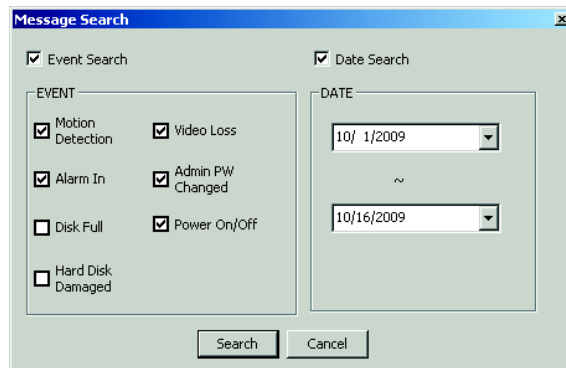

Figure 97. Selecting Event Type Search Settings
3. On the Received Messages toolbar, click Search . The Message Search dialog box appears (refer to Figure 97 on page 123).
4. To select the search method (refer to Figure 97), perform one or both of the following options: